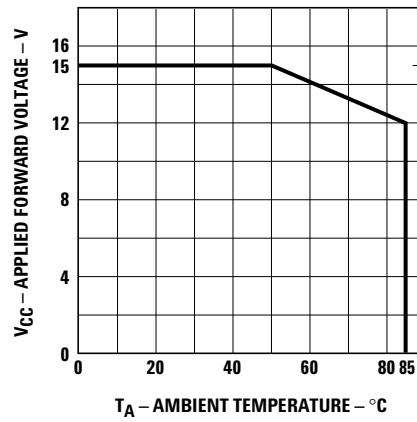

Figure 4. Maximum allowed applied forward voltage vs. ambient temperature  $R_{\theta JA} = 175^\circ\text{C}/\text{W}$ . 12 volt devices.
3. Derate from TA = 50°C at 0.086 V/°C, see Figure 4.